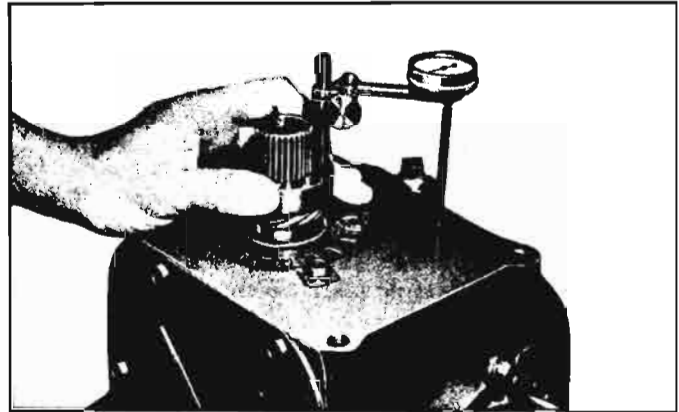

Fig. 6-15—Mounting Difference with J-8364 and Dial Indicator
- d. Place J-8364 and dial indicator on governor gear on the differential carrier pinion shaft as illustrated (fig. 6-15) and lower support slowly so that revolutions of indicator needle can be counted. Measurement starts once the indicator needle again reaches zero. Fully depress support on governor gear, note indicator reading and refer to the following chart for spacers to be installed on governor gear.